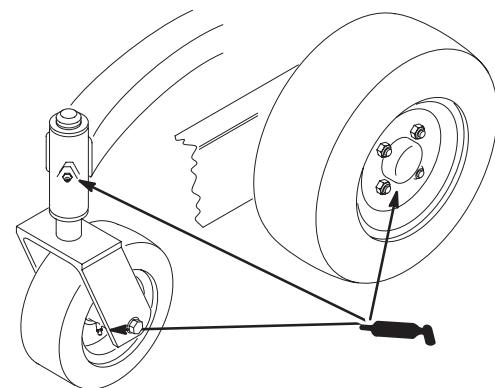

Figure 37
1. Lubricate the front wheel bearings and front spindles (Fig. 37).
4. Remove rear wheel grease cap. Lubricate the rear wheel bearing (Fig. 37).